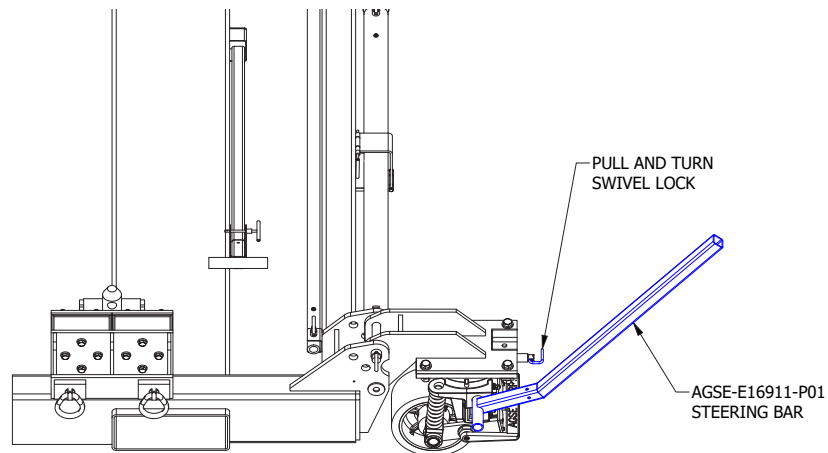

Figure 4.2-5
- 2). Insert one end of the steering bar handles into a rounded slot on the side of the caster wheel (Figure 4.2-5)